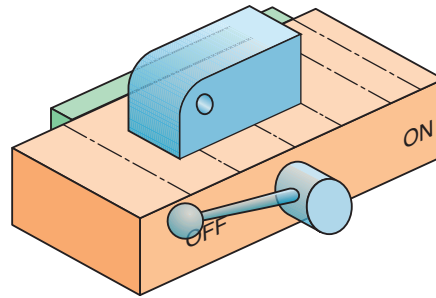

Figure 13-85 What can be done to improve the grind setup of this aluminum workpiece?
17. This aluminum workpiece shown in Fig. 13-85 is not ready to grind. Why? Describe or sketch the improvements needed in the setup.